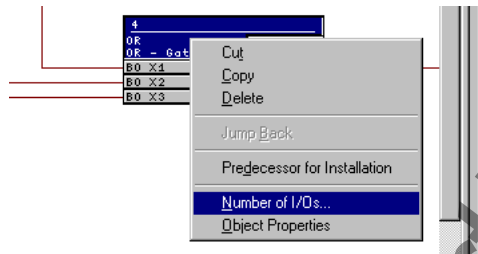

Figure 5-37 Example of an OR gate module menu
The default run-time sequence is determined by the sequence of the insertion of the logic modules. You may redefine the run-time sequence by pressing <CTRL> – <F11> on the PC keyboard. Please refer to the CFC manual. The necessary function modules (FM) are contained in a library located to the right of the configuration chart. The module also indicates to which of the four run-time levels (MW_BEARB, PLC1_BEARB, PLC_BEARB, SFS_BEARB) it is assigned. The modules possess at least one input and one output. In addition to these inputs and outputs, which are displayed on the configuration sheet, a module may have additional inputs. The additional inputs can be made visible by selecting the module title block, pressing the *right* mouse button, selecting the menu option **Number Of I/Os...** (see Figure 5-37), and then increasing the number.